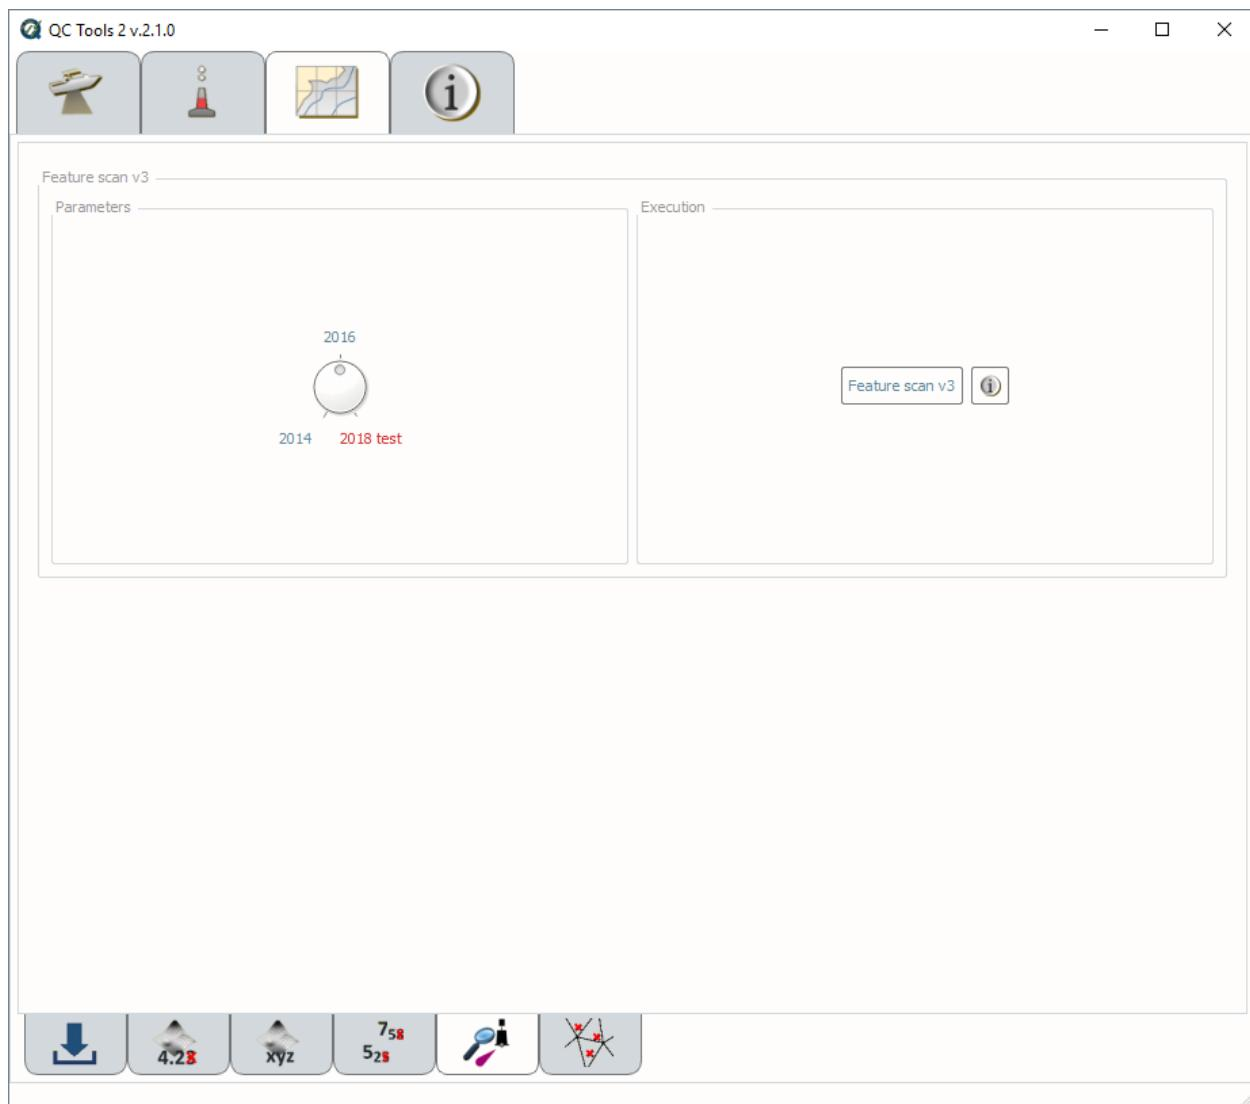

Fig. 2.68: Feature scan's interface.
- In **Parameters** (Fig. 2.68, left side), turn the knob to select the required year of HCell Specification. Currently, the ‘2018 test’ is duplicative to 2016.
- In **Execution** (Fig. 2.68, right side), click **Feature scan v2**.